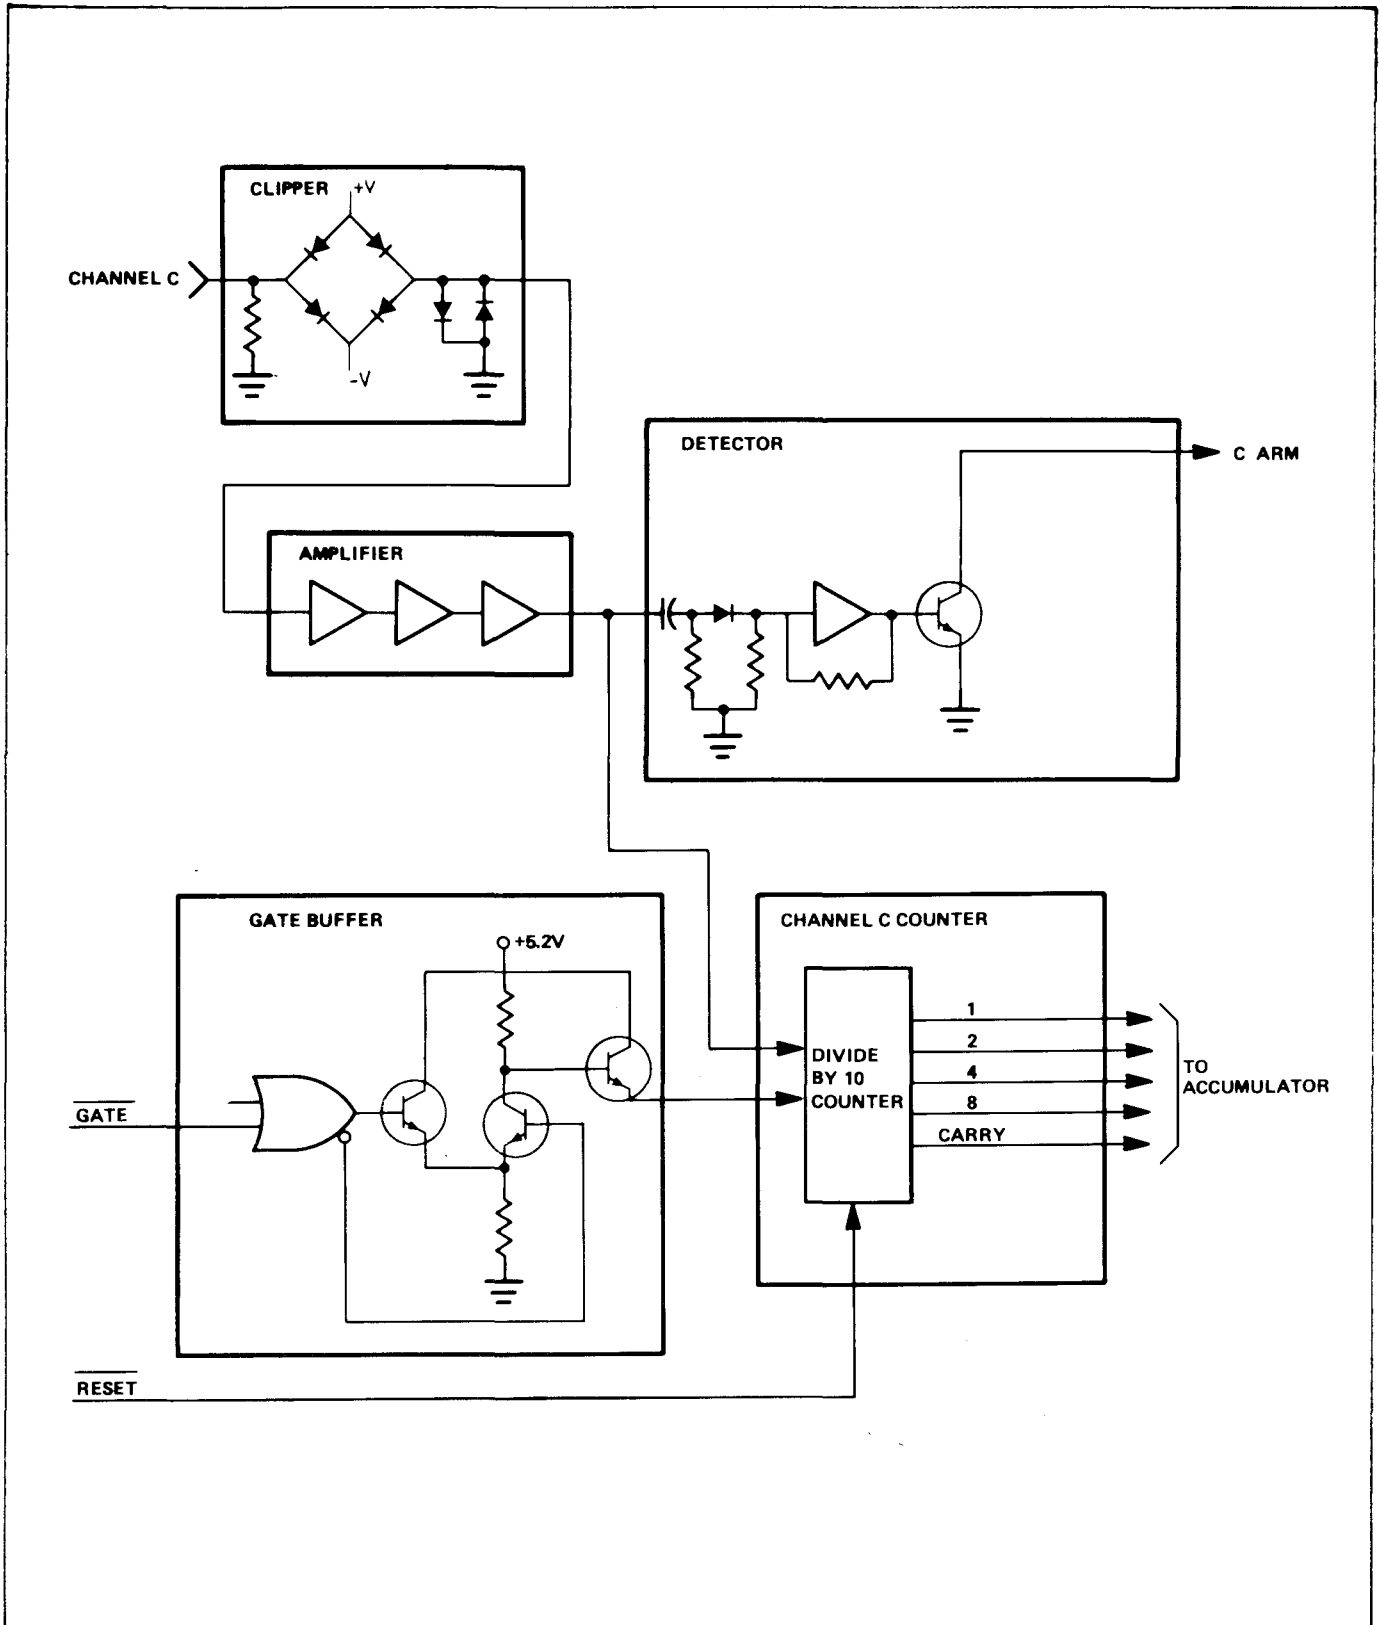

Figure 1.38 - 512 MHz RF Board Simplified Diagram
1.4.20.1 The 512 MHz direct count RF board automatically adjusts the amplitude of the channel C input signal to provide a suitable level for the remaining circuitry, divides the input signal frequency by ten, and generates a high, CARM logic signal when an input of the correct frequency range and of sufficient amplitude is applied to the channel C input connector. The RF board diagram, shown in figure 1.38, consists of a clipper, RF amplifier, counter, detector, and gate buffer.